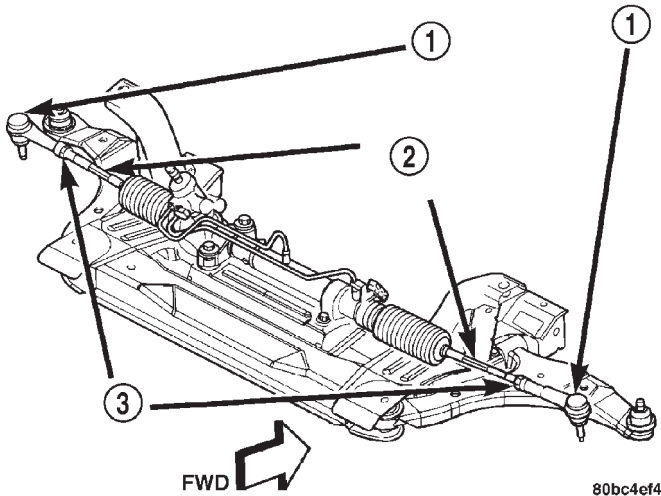

Fig. 5 Jam Nuts
(1) Loosen the tie rod adjusting jam nuts (Fig. 5). Grasp each inner tie rod at its hex and rotate it one way or the other until the front wheel toe is set to the preferred specification. Refer to WHEEL ALIGNMENT SPECIFICATIONS in this section of this service manual group.